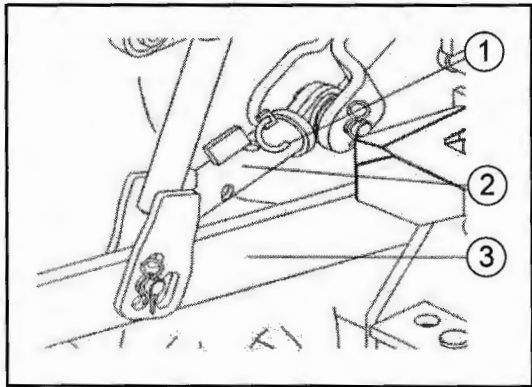

Fig. 24-1 - Lateral Stabilizers
To adjust the stabilizer length, remove linch pin (1) and rotate the sleeve (2). Rotating the sleeve clockwise will tighten the sleeve and rotating it counterclockwise will loosen the sleeve. (See Fig. 24-1).